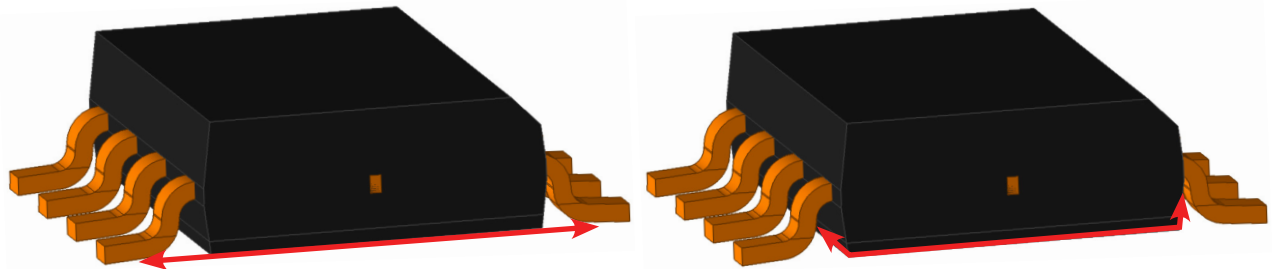

Figure 4: Clearance path in JEDEC packages
**Clearance ( $D_{CL}$ ):** Clearance is the minimum distance through air between the IP loop and the I/O power pins (refer to Figure 4). It may or may not be line-of-sight distance since electric fields and sparks are able to go around corners. It may or may not be the same path as the creepage, but for the case of JEDEC packages, it is typically the same path. Clearance is used to determine the maximum voltage that can be put across the body of a part before the air can break down and cause a spark. Generally, the maximum voltage in an application is determined by the overvoltage category, therefore clearance will limit the overvoltage for a part.